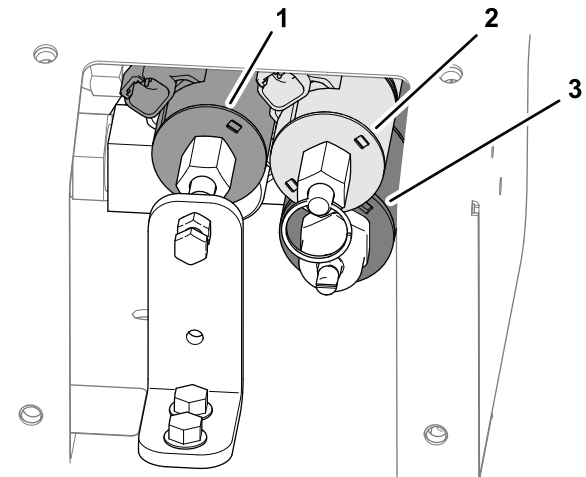

Figure 29
3. Locate the 3 control valves (Figure 29).